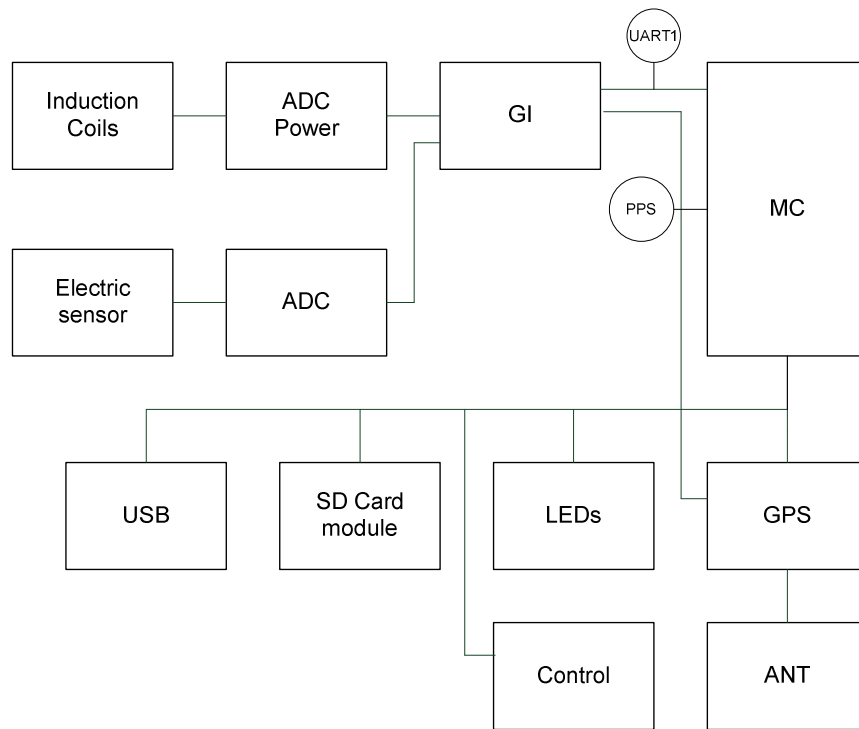

Fig.4. Functional diagram
The functional diagram of the MTS is given in Fig. 4. The analog outputs of three induction coil magnetometers (Induction coils on Fig.4) are connected to the ADC Power in the data collection unit and then to microcontroller MC through digital galvanic isolator (GI) and port UART1. The same structure is of two-channel telluric field meter (Electric sensors on Fig.4) having their own ADC. The SD Card module, LEDs, GPS unit with antenna ANT and Control unit are coupled online with MC. The data exchange of MC with external PC is realized through serial interface USB (not shown). The operation synchronization with universal time clock is realized through GPS PPS signal.